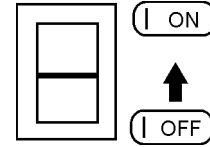

Figure 13. Operation Switch (ON)
4. Place the **operation switch** (Figure 13) in the "ON" position. This step applies to units with S/N 5497956 and below.